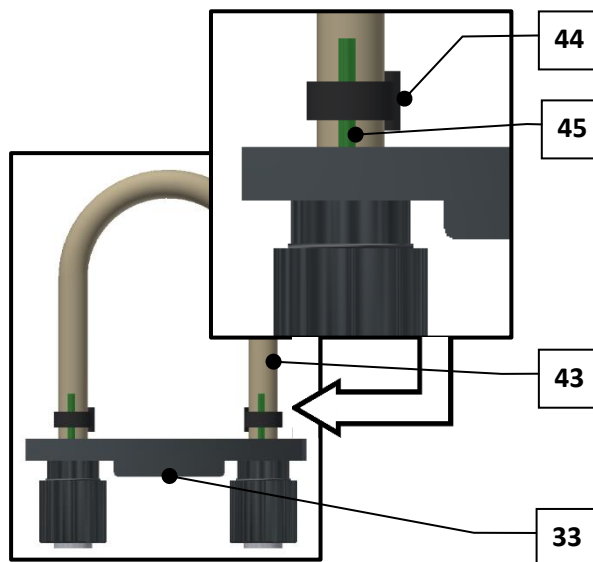

Fig. 67: Hose bracket kit, marking
- The markings on the hose ends must be visible in the front and centre (see Fig. 67)!
- 2) To replace the dosing hose (Fig. 67, No. 43) at the hose bracket (Fig. 67, No. 33), **carefully** cut the hose clamps (Fig. 67, No. 44) with a sharp knife or a pair of pliers!
- 3) Push the new dosing hose onto the hose nipples so that the markings on the hose ends are visible in the front and centre! (Fig. 67, No. 45) This ensures that the hose is not twisted.